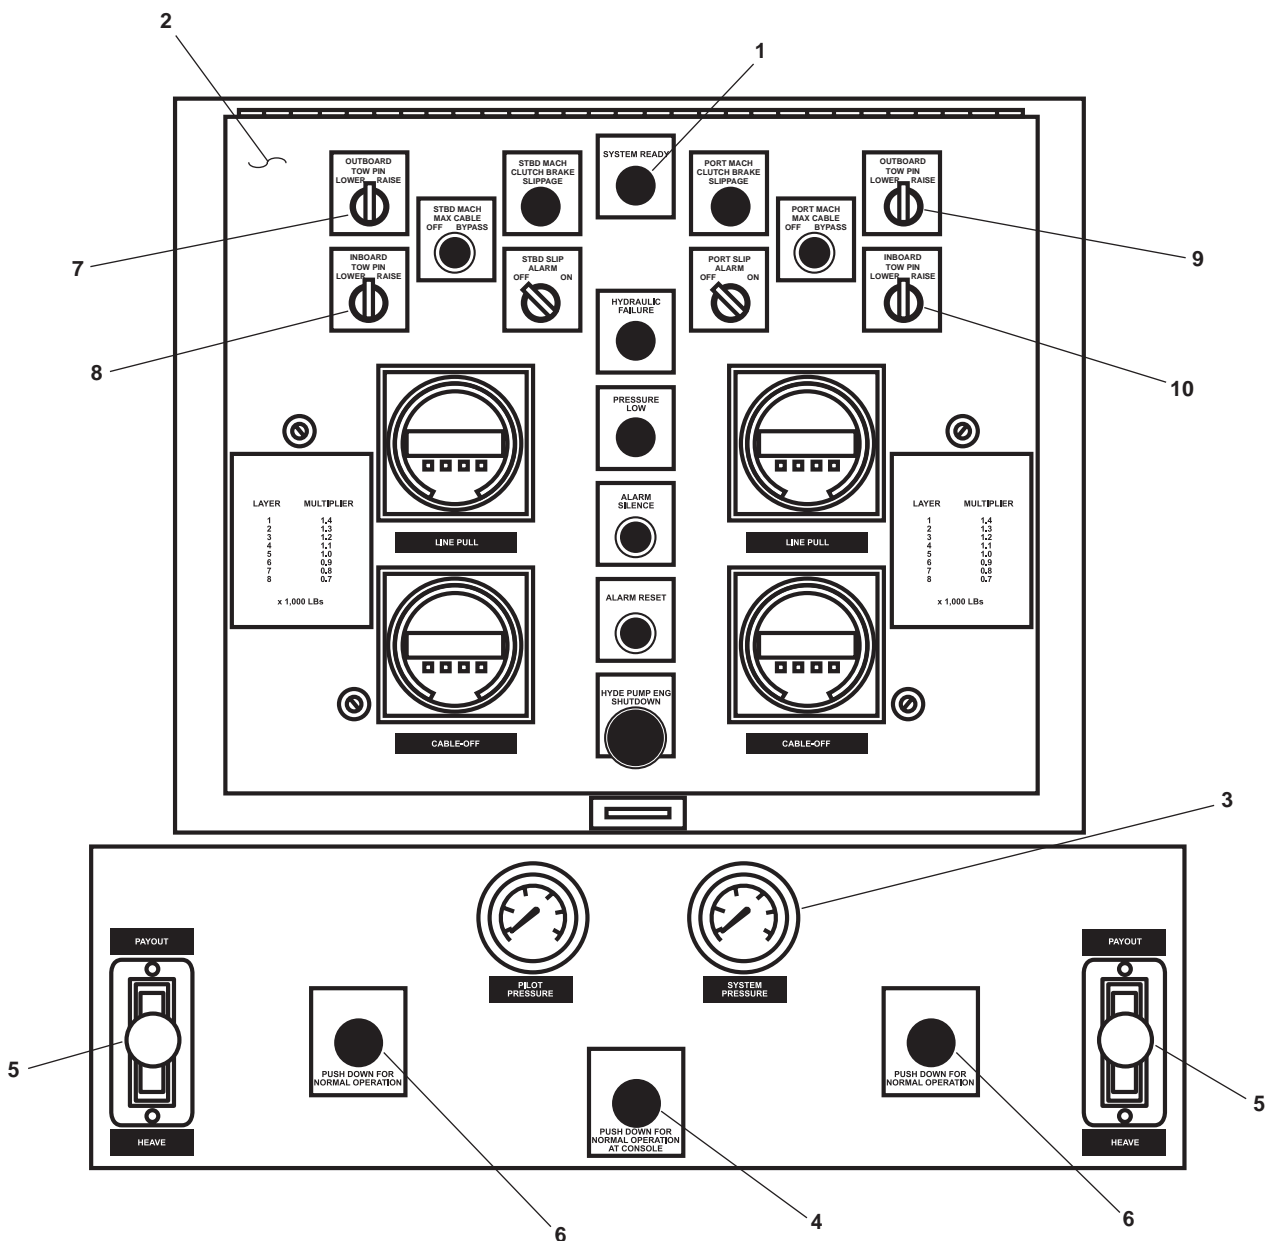

Figure 11. Towing Machine Operator Control Panel
2. Verify that the SYSTEM READY indicator (figure 11, item 1) on the towing machine operator control panel (figure 11, item 2) is illuminated.
3. Verify that the SYSTEM PRESSURE gauge (figure 11, item 3) indicates that the towing machine hydraulic system is supplying hydraulic fluid to the system.
4. Place the local or remote switch (figure 11, item 4) in the local position by pushing it down fully to the NORMAL OPERATION AT CONSOLE mode.
5. Ensure that the directional control lever (figure 11, item 5) is in the NEUTRAL position. The NEUTRAL position is centered between the PAYOUT and HEAVE positions.
6. Place the speed range selector (figure 11, item 6) in the NORMAL OPERATION mode by pushing it down fully.
7. Place the directional control lever (figure 11, item 5) in the PAYOUT position. The towing machine will operate at a speed proportional to the lever movement.
6. Place the speed range selector (figure 11, item 6) in the LOW SPEED mode by fully pulling it up to its fully extended position.
7. Place the directional control lever (figure 11, item 5) in the HEAVE position. The towing machine will operate at a speed proportional to the lever movement.
- Verify that the SYSTEM READY indicator (figure 11, item 1) on the towing machine operator control panel (figure 11, item 2) is illuminated.
- Verify that the SYSTEM PRESSURE gauge (figure 11, item 3) indicates that the towing machine hydraulic system is supplying hydraulic fluid to the system.
- Place the local or remote switch (figure 11, item 4) in the local position by pushing it down fully to the NORMAL OPERATION AT CONSOLE mode.
- Ensure that the directional control lever (figure 11, item 5) is in the NEUTRAL position. The NEUTRAL position is centered between the PAYOUT and HEAVE positions.